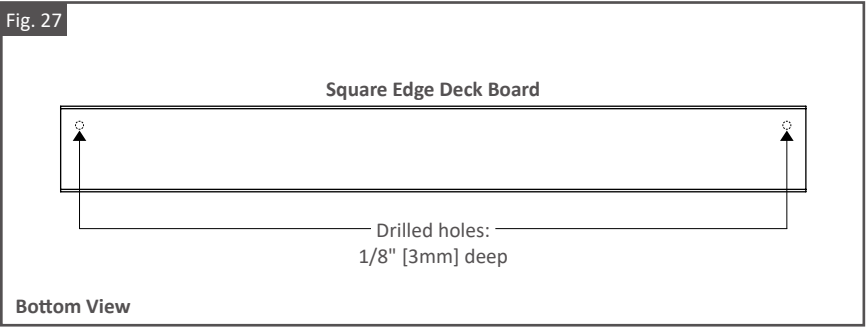

Fig. 28
6. Use HULK Metal Composite Deck Screws to fasten each end of the deck board onto top face of stair frame. Reference Fig. 28 & 29 for recommended fastener spacing.